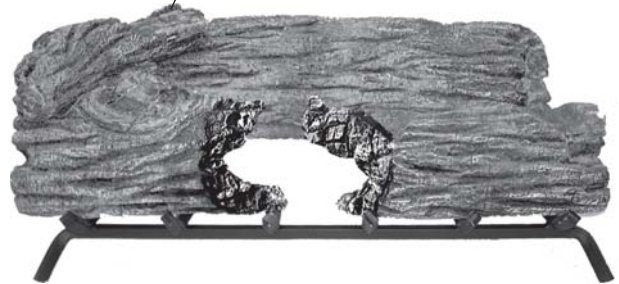

Figure 29 - Placing Left Middle Log (#4)
5. Install left middle log #4 as shown. *See Figure 29.*